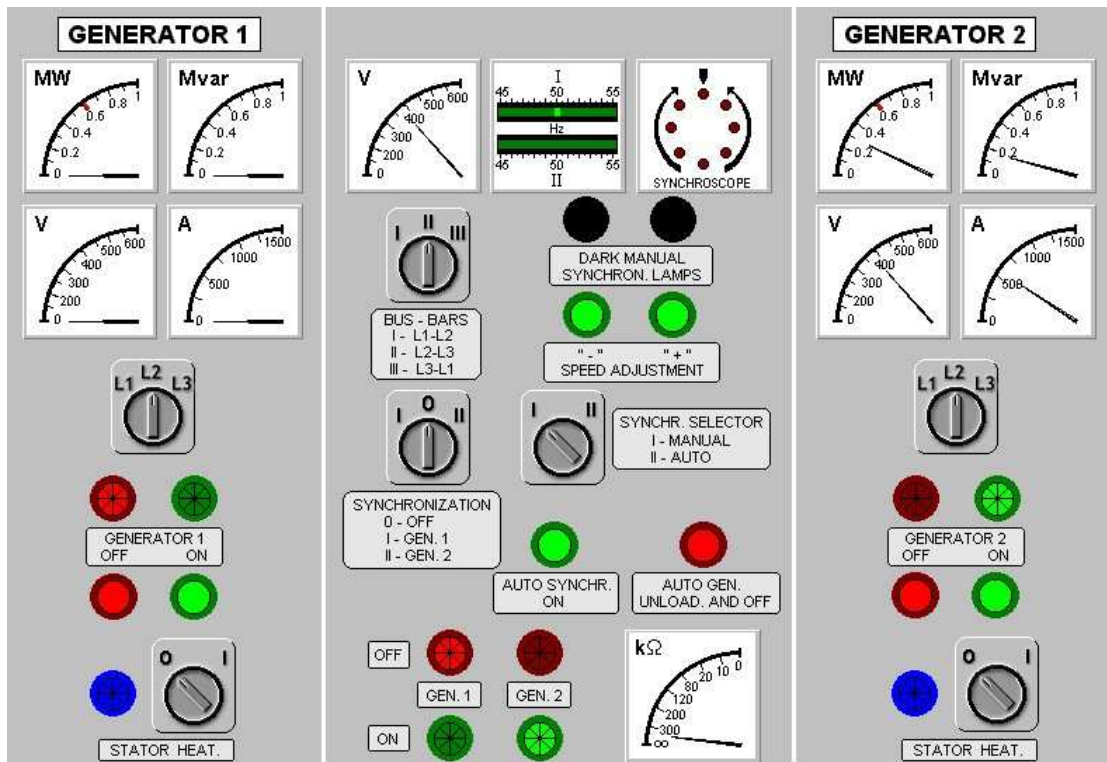

Fig. 4.20 Main Switchboard
- d. main switchboard panel Fig. 4.20